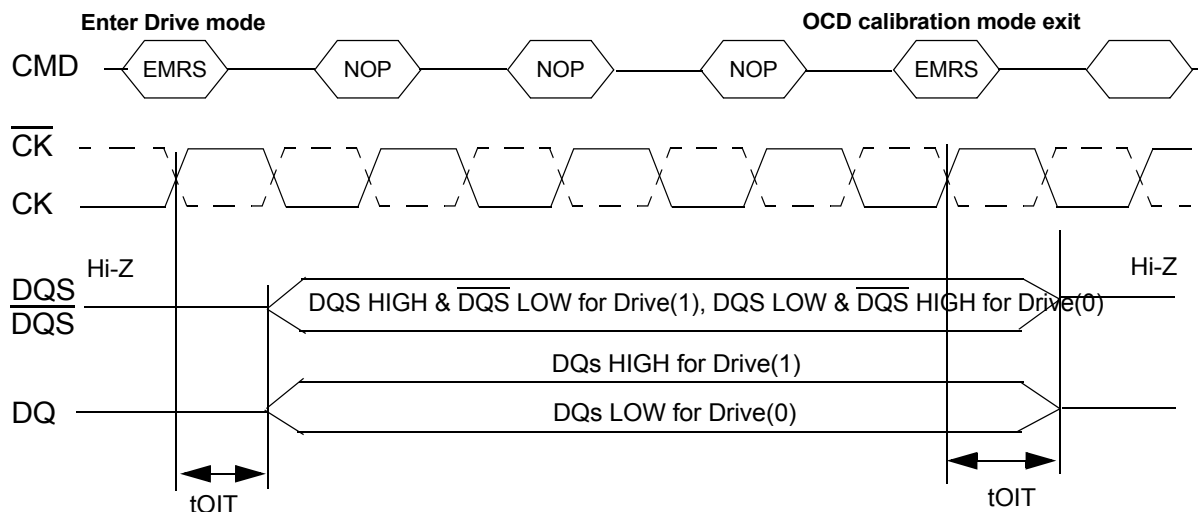

Figure 21 — OCD drive mode
Drive mode, both Drive(1) and Drive(0), is used for controllers to measure DDR2 SDRAM Driver impedance. In this mode, all outputs are driven out t_{OIT} after “enter drive mode” command and all output drivers are turned-off t_{OIT} after “OCD calibration mode exit” command as shown in Figure 21..